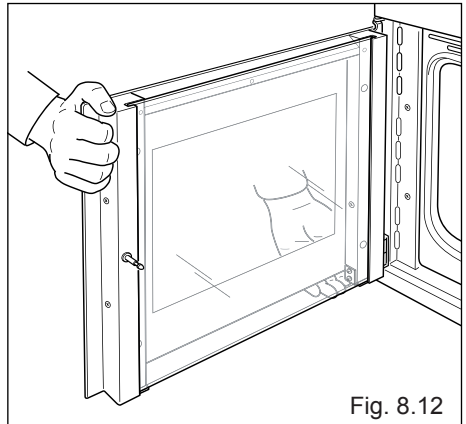
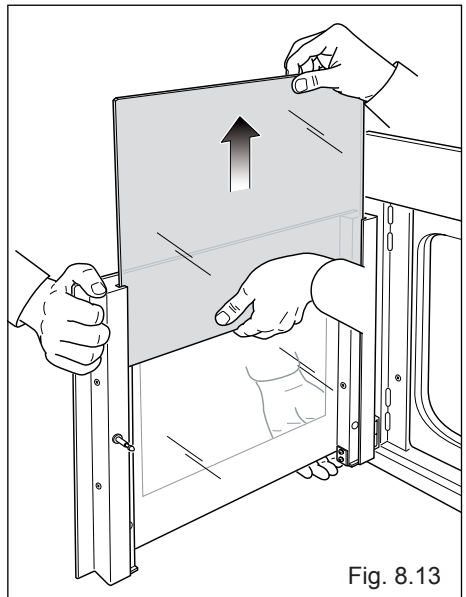

Fig. 8.12
Fig. 8.13
When removing and replacing the inner glass, the door should be held still by one person (fig. 8.12). A second person should gently remove the glass (fig. 8.13).
- Gently pull out the inner pane of glass (fig. 8.13). Forcible removal of the door glass may lead to damage of the door hinges.